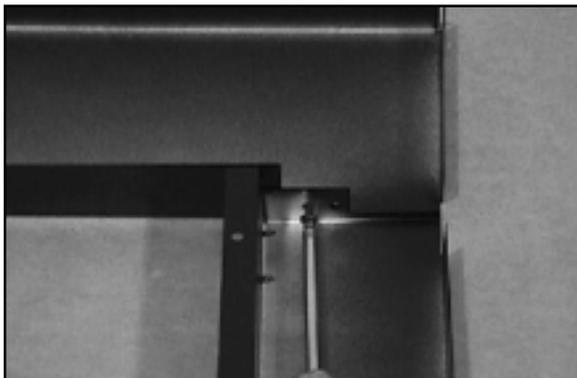
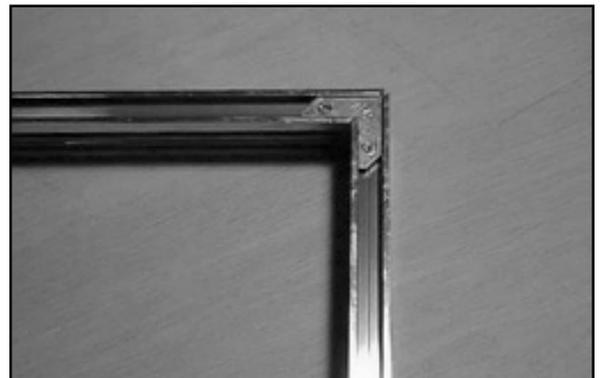

Figure 11 - Assembling the Surround
Figure 12 - Assembling the Trim
1. Assemble the surround top to the surround sides with the screws provided. See Figure 11. Assemble the brass trim kit with the corner brackets (provided) and slide the trim around the surround. See Figure 12.